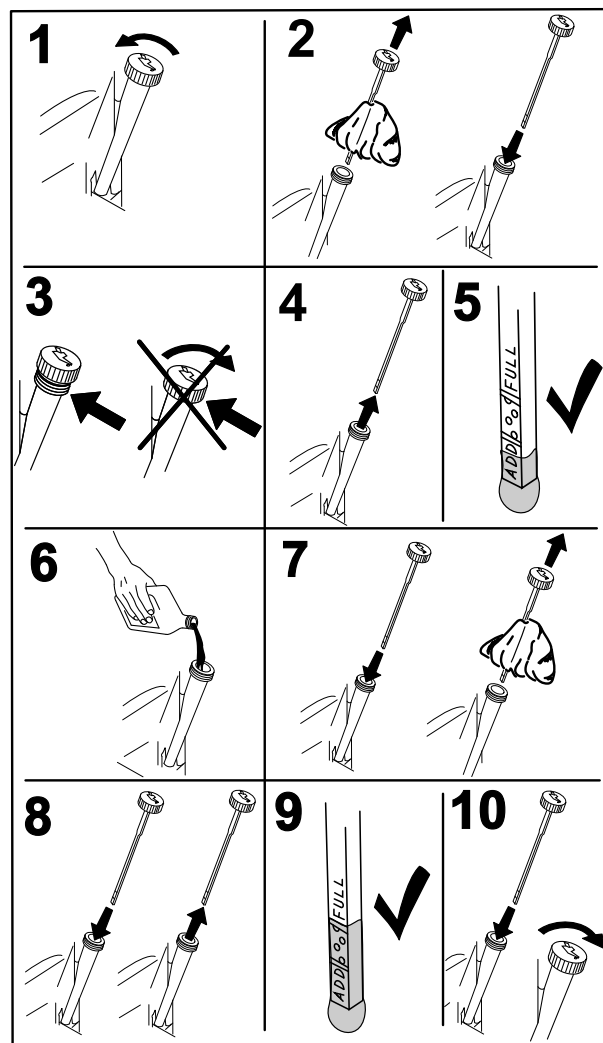

Figure 44
4. Stop the engine, remove the key, and wait for all moving parts to stop before leaving the operating position (Figure 44).